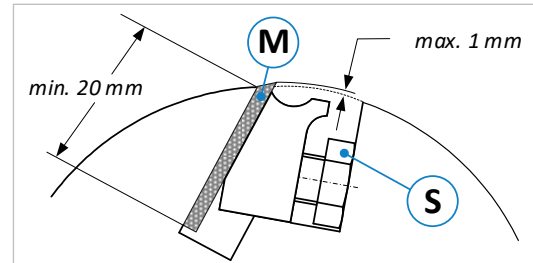
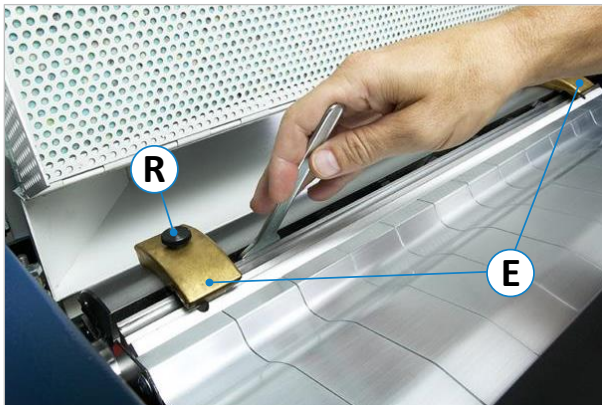

Figure 52: Traditional cutter block
Figure 53: Standard adjusting devices
- The knives (**M**) may only be sharpened to such an extent that a minimum clamping length of 20 mm can be maintained with a knife protrusion of max. 1 mm (see ⇒ Figure 52).
- Using a flat spanner SW17 (as shown in ⇒ Figure 53), loosen all the screws (**S**) in sequence and remove the blunt knives (**M**), see ⇒ Figure 52.